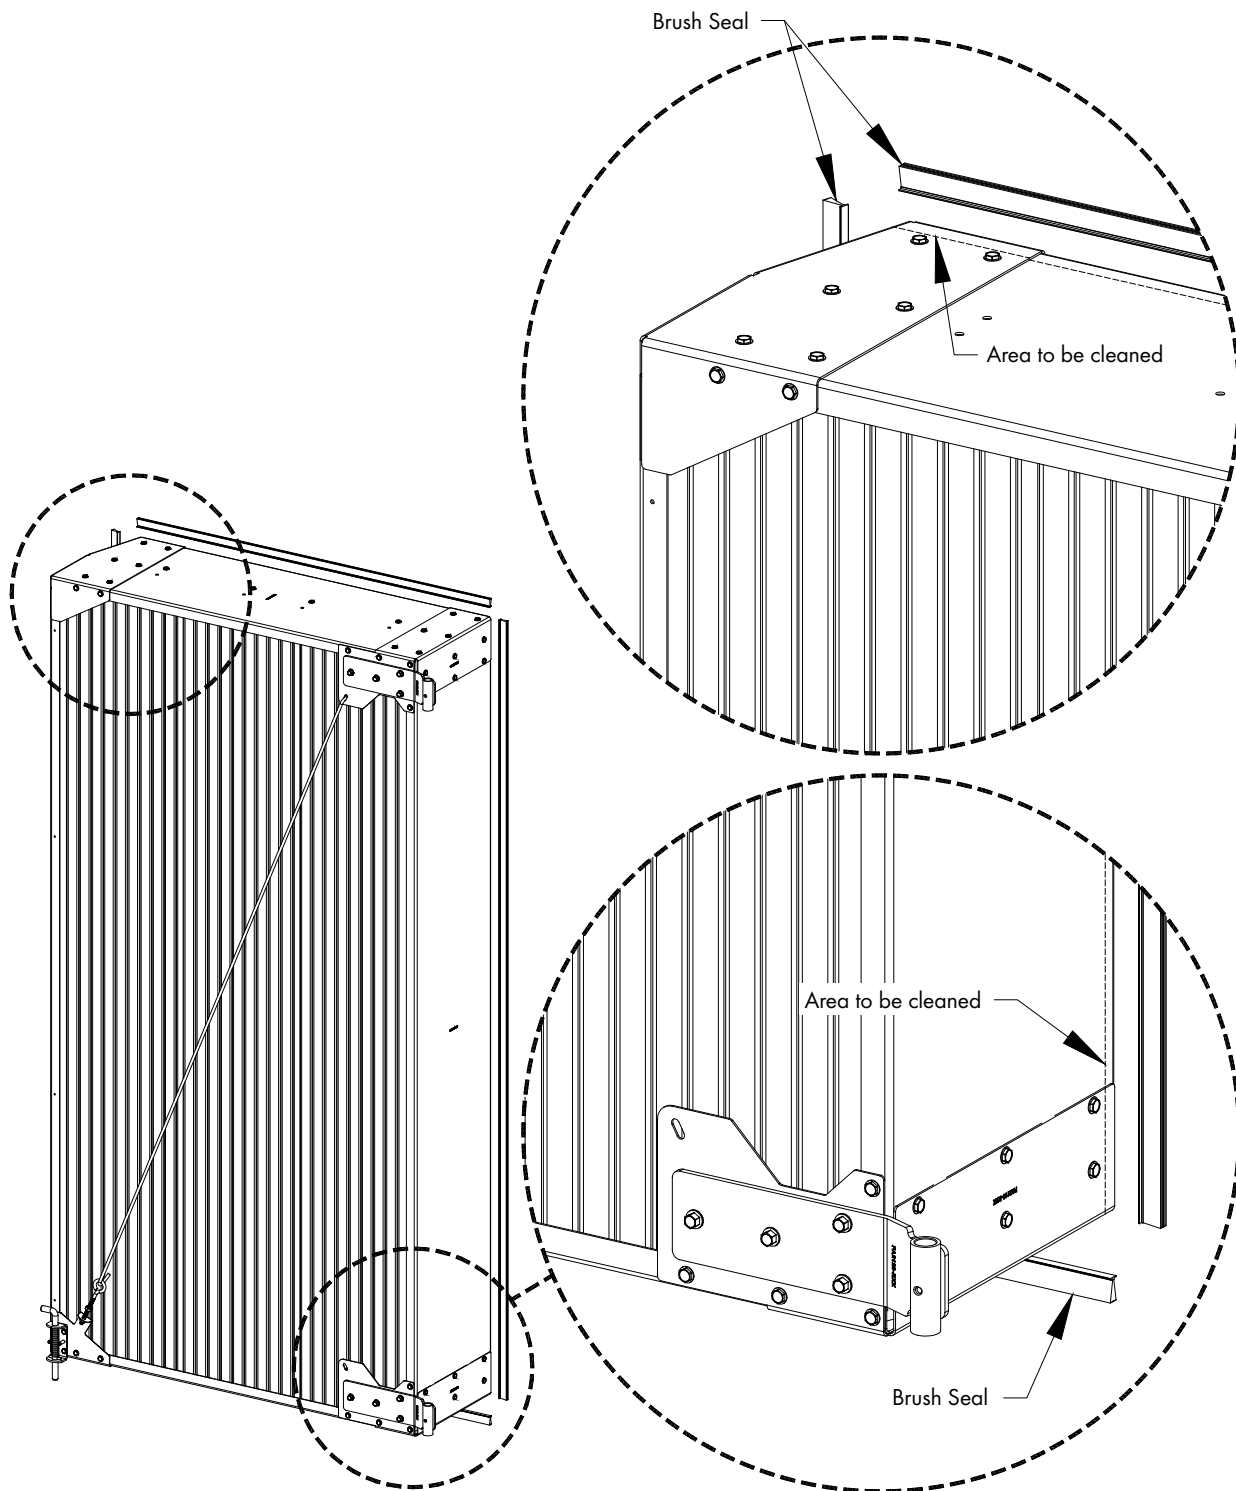

Figure 22
Clean a 1" strip of the galvanized panels and corner brackets on all 4 sides, along the edge of the door opposite the Leaf Hinge and Spring Latch. Cut the roll of Brush Seal into 4 pieces, (2) at 36¼"L. and (2) at 72½"L., then peel the backing off of the Brush Seal and carefully stick them to the 4 sides of the door where they were cleaned. See Figure 22.